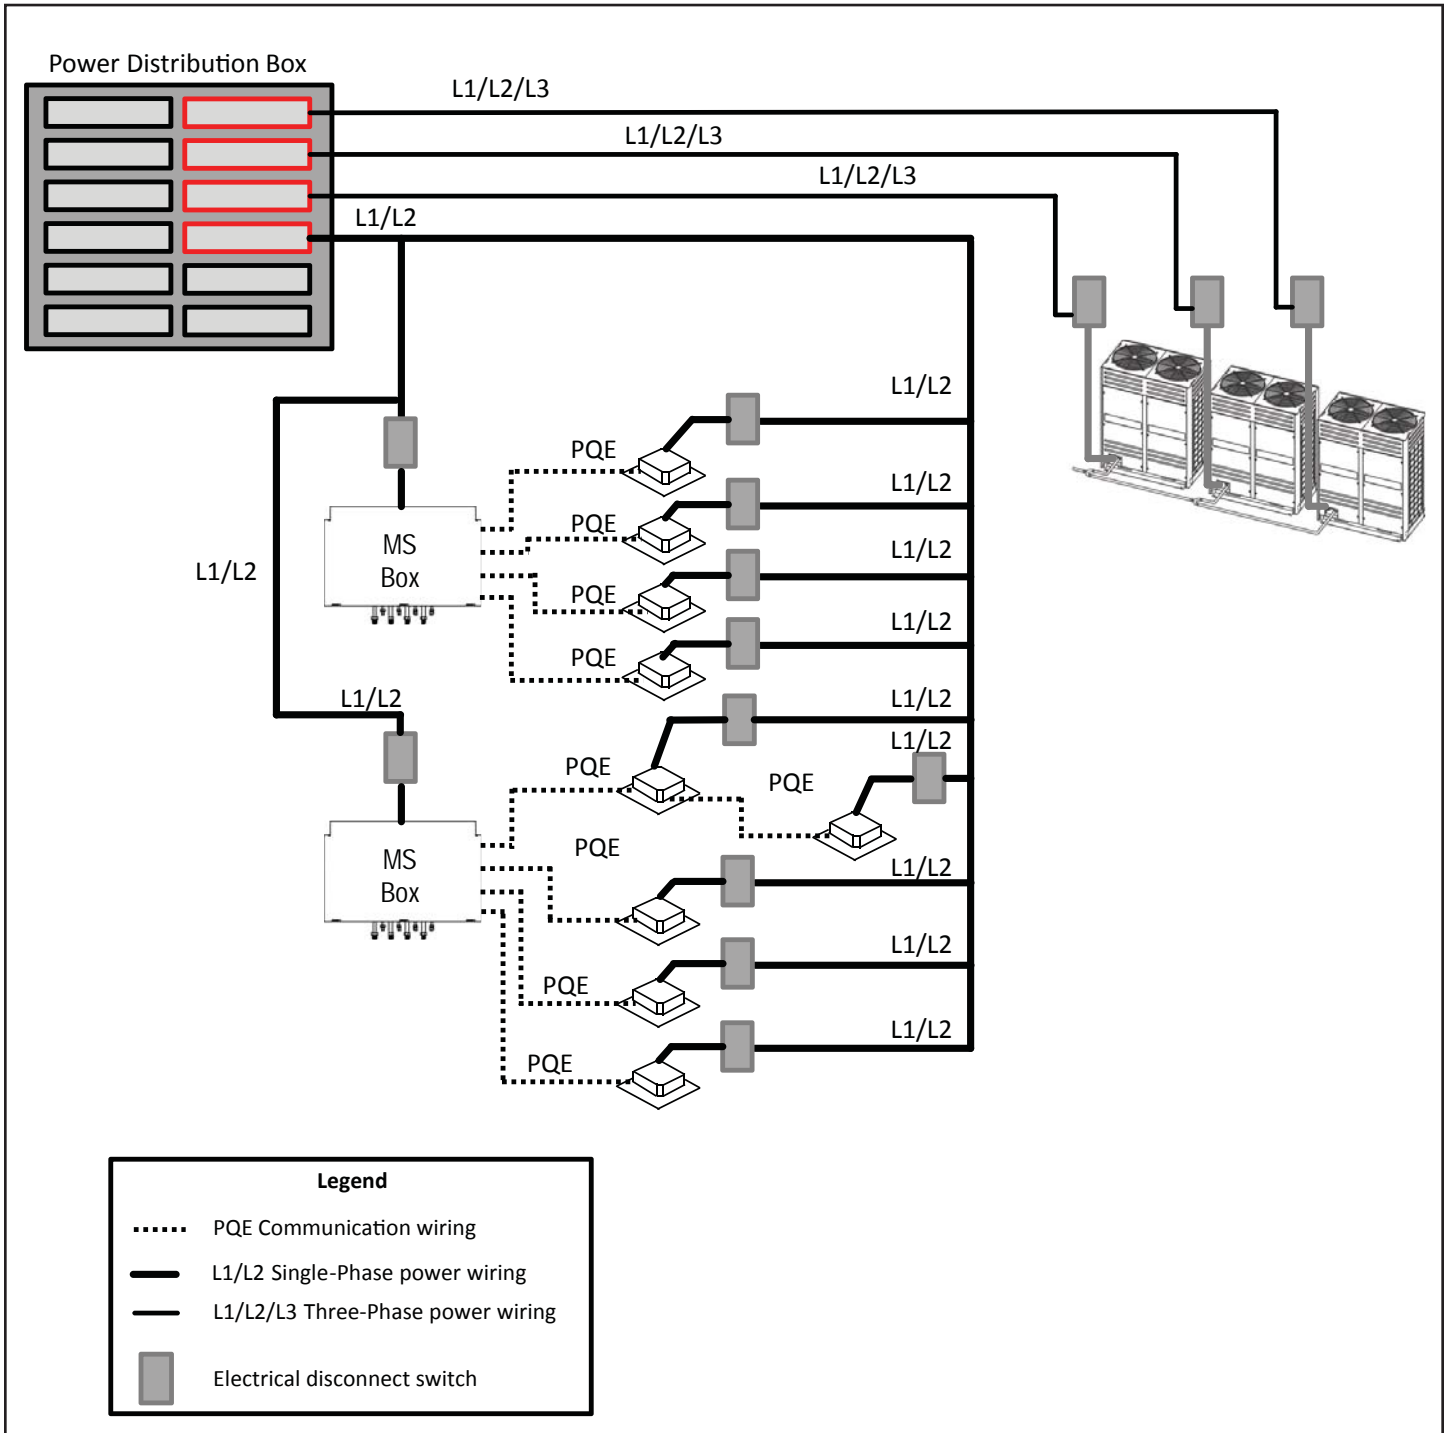

Figure 12. Typical Power Wiring Diagram (VRF Heat Recovery System Shown)
6. Locate the terminal strip in the control box. Connect the power wiring (sized per NEC/CEC and local codes) and communications cable (three-conductor shielded cable) per figures 12 and 13. Refer to unit nameplate for rated voltage.